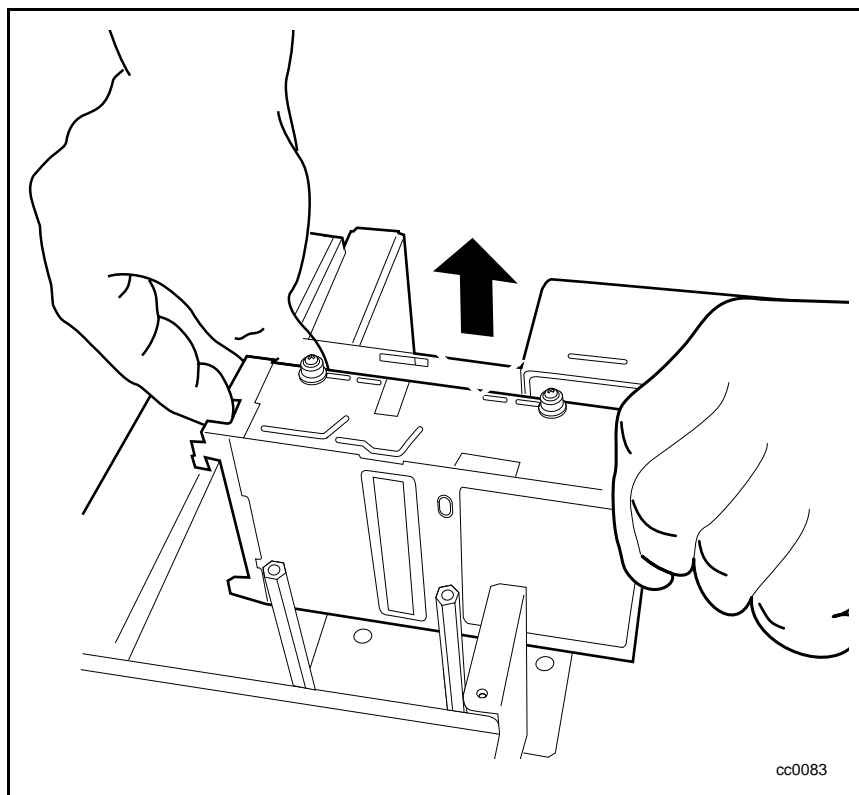

Figure 5-13. Removing the tape drive
8. Lift the tape drive out of the Library chassis (see Figure 5-13).
- Lower the new tape drive into the Library chassis (see Figure 5-13).